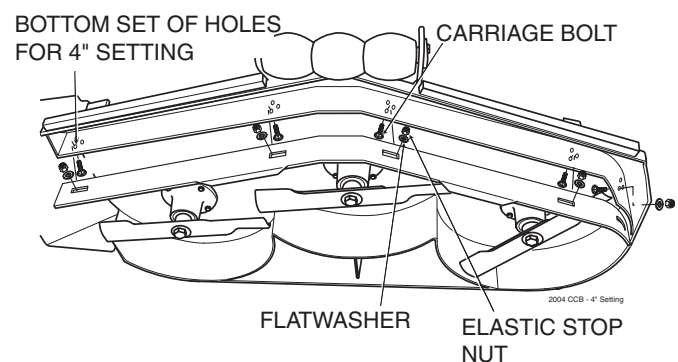

Figure 6-10. 4" Custom-Cut Baffle Position
- C. 4" Position - baffle is installed using the bottom set of holes on the front baffle welded inside the cutter deck. (See Figure 6.10). Placing the baffle in the 4" setting will enhance fall cutting (leaf pickup) and reduce cutter deck "blowout".